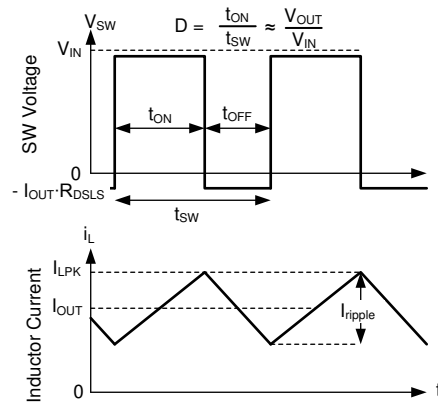

Figure 7-11. SW Voltage and Inductor Current Waveforms in Continuous Conduction Mode (CCM)
The following operating description of the LMR43606-Q1 refers to Section 7.2 and to the waveforms in Figure 7-11. In CCM, the LMR43606-Q1 supplies a regulated output voltage by turning on the internal high-side (HS) and low-side (LS) switches with varying duty cycle (D). During the HS switch on time, the SW pin voltage, V_{SW} , swings up to approximately V_{IN} , and the inductor current, i_L , increases with a linear slope. The HS switch is turned off by the control logic. During the HS switch off time, t_{OFF} , the LS switch is turned on. Inductor current discharges through the LS switch, which forces the V_{SW} to swing below ground by the voltage drop across the LS switch. The converter loop adjusts the duty cycle to maintain a constant output voltage. D is defined by the on time of the HS switch over the switching period: